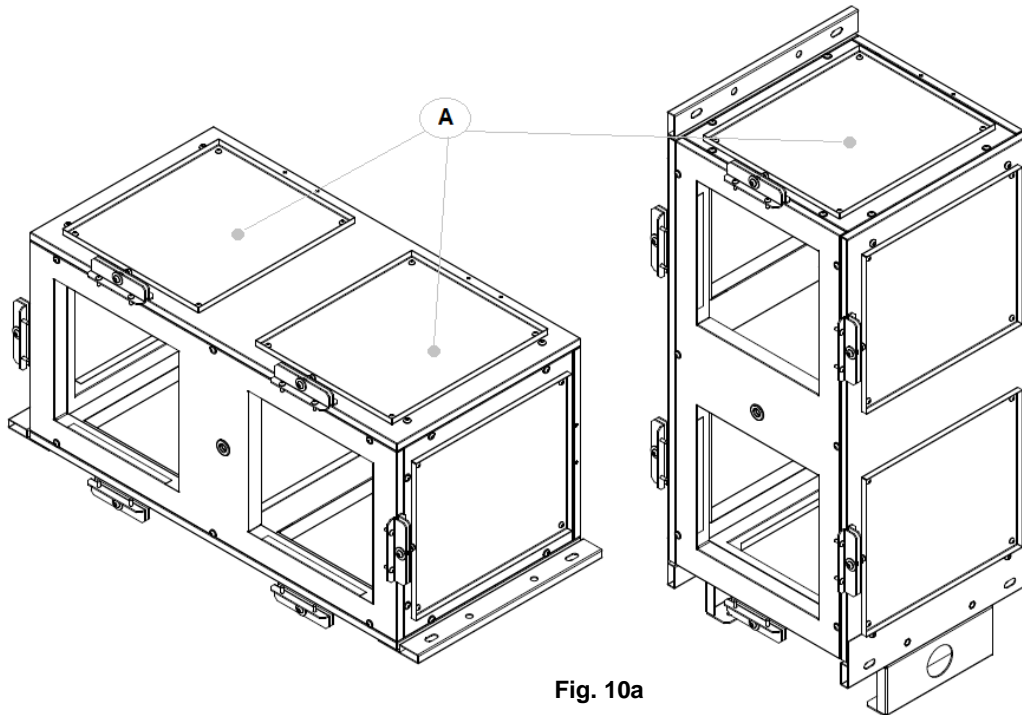

Fig. 10a
- PLM plenum is provided with n°10 possible air connections of which n° 6 closed by insulated plates (A) fixed by selfdrilling screws, as shown on **fig. 10a**.